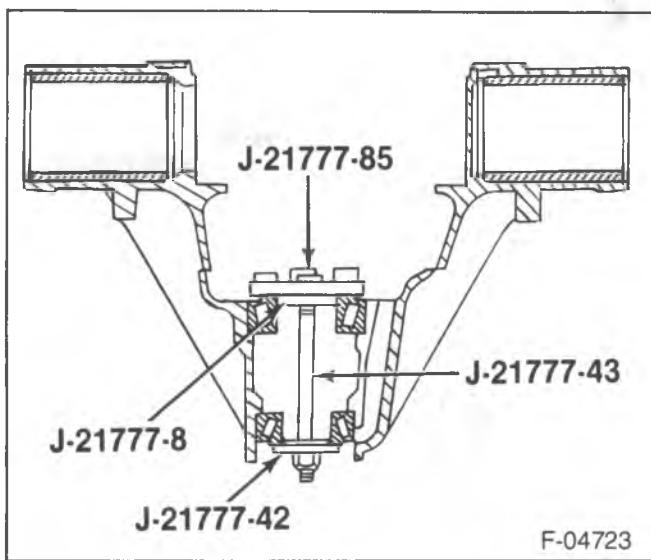

Figure 11—Gage Plate Tools
3. Place the bearings (10) and (13) into the pinion bearing cups.
4. Install J 21777-8, J 21777-42, J 21777-85 and J 21777-43 to the pinion bore (figure 11).